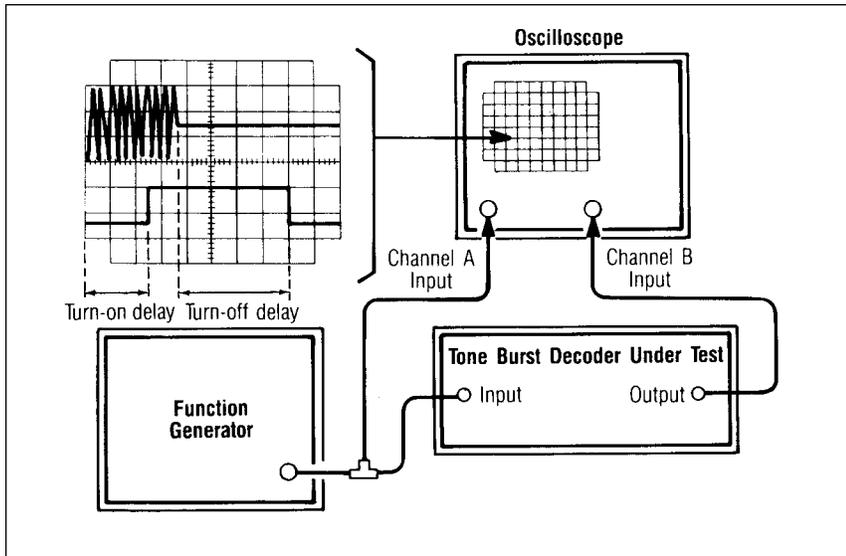

Fig. 20. Tone burst decoder testing.
The following procedure, along with Fig. 20, describes the typical testing method for these devices.
1. Connect equipment as shown in Fig. 20. With the generator initially in the continuous run mode, set its range and frequency to the decoder's acceptance frequency. This should be found in the manufacturer's service literature, or may be marked on the unit. Use a frequency counter if a high degree of accuracy is required.
6. The decoder's turn-on delay period can also be measured on the scope. This is the time period from the beginning of the tone burst until the decoder output changes stated. Decoder turn-off delay can also be measured. This is the time period from the end of the tone burst until the decoder output reverts to the off state. Both intervals are shown in Fig. 20.